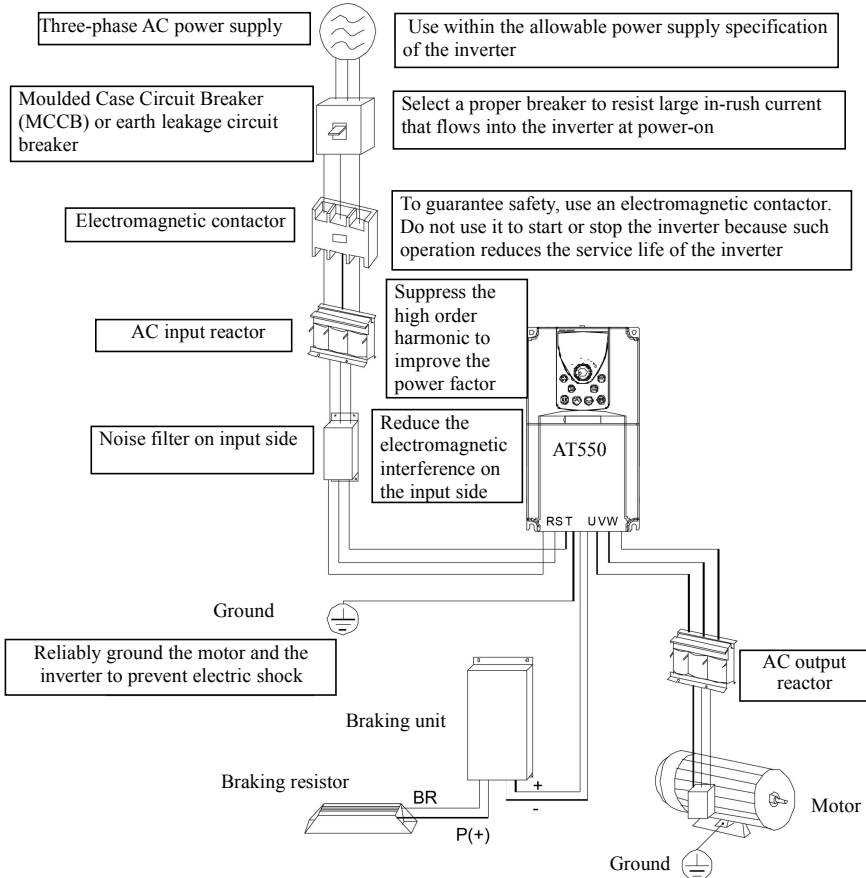

Figure 3.1 Peripheral Electrical Devices
- 1) The inverter should be installed vertically for heat dissipation but cannot be put upside down. Installing the inverters side by side is highly recommended for installing a number of them in one cabinet. Please refer to figure 3-1 when installing the insulation plate
- 2) Follow Figure3.1 to ensure the dissipation space for the inverters. The heat dissipation of other machines in the cabinet should be considered as well.